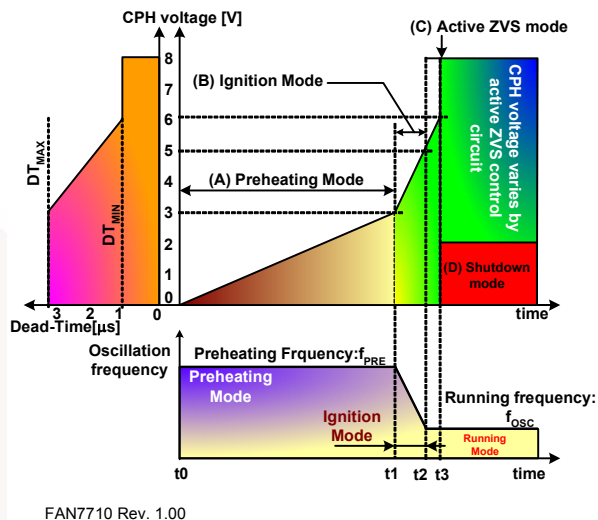

Figure 22. Operation Modes
FAN7710 has four operation modes: (A) preheating mode, (B) ignition mode, (C) active ZVS mode, and (D) shutdown mode, depicted in Figure 22. The modes are automatically selected by the voltage of CPH capacitor shown in Figure 20. In modes (A) and (B), the CPH acts as a timer to determine the preheating and ignition times. After preheating and ignition modes, the role of the CPH is changed to stabilize the active ZVS control circuit. In this mode, the dead time of the inverter is selected by the voltage of CPH. Only when FAN7710 is in active ZVS mode, is it possible to shut off the whole system using the CPH pin. Pulling the CPH pin below 2.6V in active ZVS mode causes the FAN7710 to enter shutdown mode. In shutdown mode, all active operation is stopped except UVLO and some bias circuitry. The shutdown mode is triggered by the external CPH control or the active ZVS circuit. The active ZVS circuit automatically detects lamp removal (open-lamp condition) and decreases CPH voltage below 2.6V to protect the inverter switches from damage.
When the CPH voltage exceeds 3V, the internal current source to charge CPH is increased about six times larger than  $I_{PH}$ , noted as  $I_{IG}$ , causing rapid increase in CPH voltage. The internal oscillator decreases the oscillation frequency from  $f_{PRE}$  to  $f_{OSC}$  as CPH voltage increases. Lowering the frequency increases the voltage across the lamp, as depicted in Figure 22. Finally, the lamp ignites. Ignition mode is defined when CPH voltage lies between 3V and 5V. Once CPH voltage reaches 5V, the FAN7710 does not return to ignition mode, even if the CPH voltage is in that range, until the FAN7710 restarts from below  $V_{DDTH(ST-)}$ . Since the ignition mode continues when CPH is from 3V to 5V, the ignition time is given by: